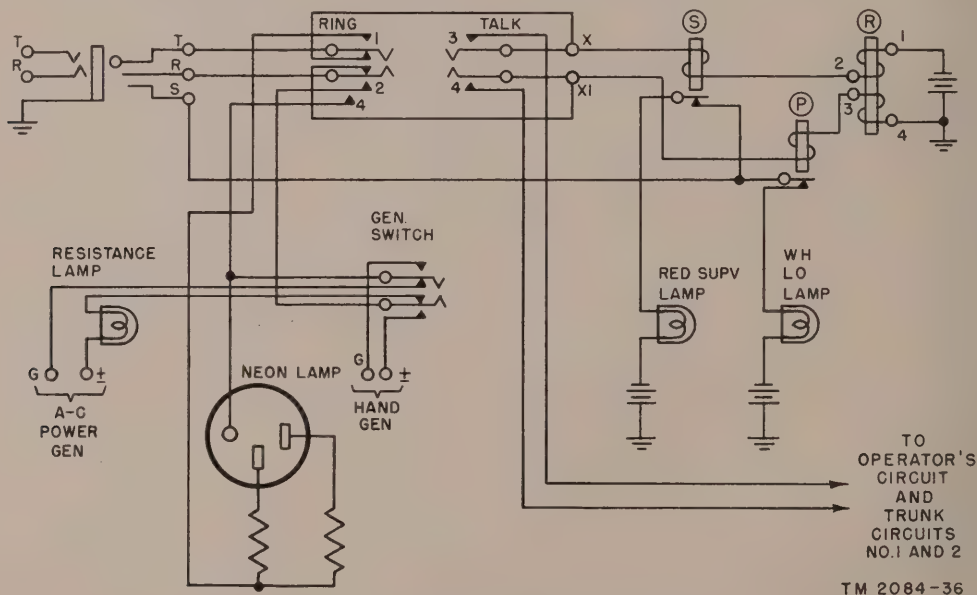

Figure 12. Cord circuit, schematic diagram.
### 30. Cord Circuit (fig. 12)
b. At RING position of the TALK-RING switch in the cord circuit (fig. 12), at points 3 and 4, a No. 359A vacuum tube (neon lamp) is con-
d. Relay 13 is energized and the contact is closed; this causes current to flow from the power generator, through the buzzer LO alarm, through the LO alarm switch, back to ground. By operating the LO alarm switch, the buzzer can be quieted. The buzzer also may be silenced by plugging a cord into a jack. Relay LO is energized by battery from relay R in the cord circuit (fig. 12). Current flows through relay R, relay S through the TALK-RING switch, through the plug and jack, through relay LO to ground. Current flows from ground to battery on relay ER to ring side of jack, through the plug, the TALK-RING switch, through relay P, through relay R to ground. Relay LO contact 1 is closed, thus silencing the buzzer and extinguishing the white LO lamp on the line.